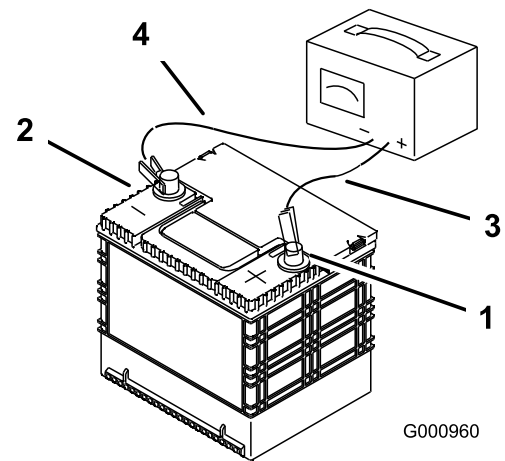

Figure 62
2. When the battery is fully charged, unplug the charger from the electrical outlet, then disconnect the charger leads from the battery posts (Figure 62).